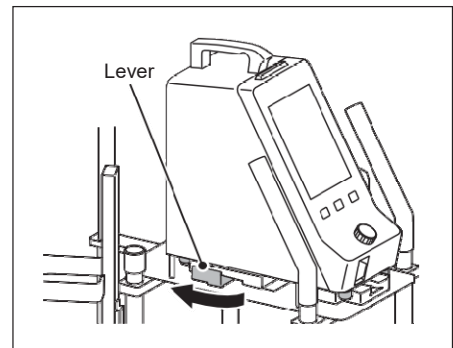

Figure 1-4
4. Pull the lever of the Cart in the direction of the arrow to secure the Controller to the Cart. (Figure 1-4)